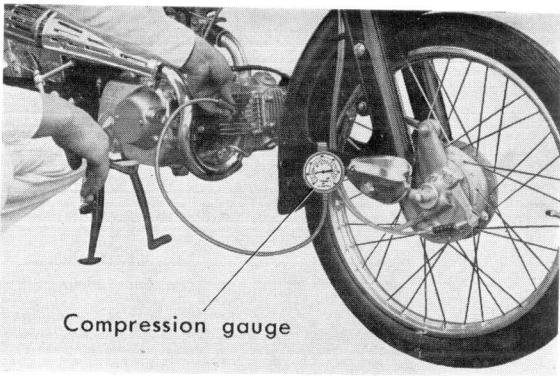

Figure 6-1. Measuring compression pressure
- b. Insert the end of the compression gauge into the spark plug hole and hold firmly to prevent pressure from leaking. (Fig. 6-1)